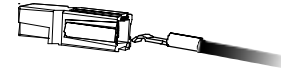

Figure 1
2. Terminate Contacts to individual wires by inserting contact into the recommended Anderson crimping tools and crimp. See SPEC Pak Data Sheet for additional information on contacts. Keeping all Powerpole and Ground contacts on a similar plane while crimping will make installation into Powerpole Housings and SPEC Pak Holder easier. (See Figure 1)